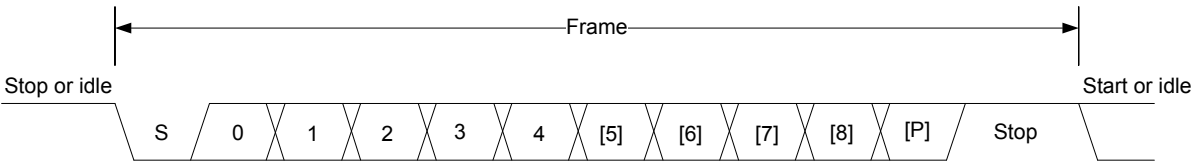

Figure 21.2. Frame Format
The frame format used in asynchronous mode consists of a set of data bits in addition to bits for synchronization and optionally a parity bit for error checking. A frame starts with one start-bit (S), where the line is driven low for one bit-period. This signals the start of a frame, and is used for synchronization. Following the start bit are 7 to 9 data bits and an optional parity bit. Finally, a number of stop-bits, where the line is driven high that indicates the end of the frame. An example frame is shown in Figure 21.2 Frame Format on page 586.